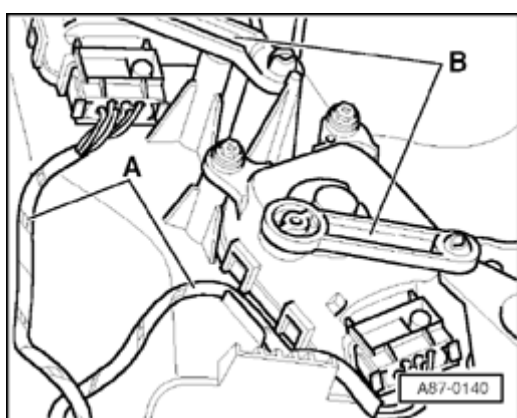

Fig. 2 Installing wiring harness for air conditioner
- ◆ When installing, ensure proper clearance to moving parts ⇒ Fig. 2.